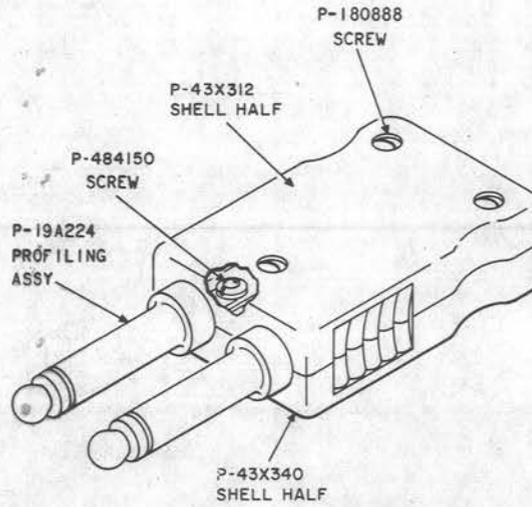
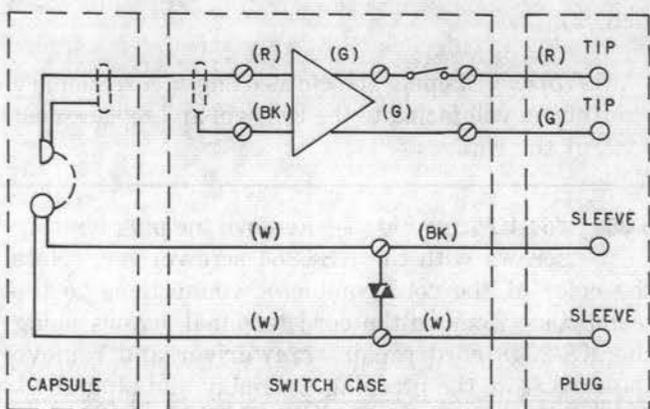

Fig. 7—464A Plug
Fig. 11—KS-21118 L3 Through L9 and L23 Through L29 Headset Schematic
5.08 *464A Plug:* Fig. 7—Remove the plug housing screws with the KS-6854 screwdriver. Note the color of the cord conductor connections to the terminals. Remove the cord terminal screws using the KS-2348 cord repair screwdriver and remove the cord from the profiling assembly and plug shell. Insert the new cord terminals through the hole in one half of the plug shell and connect to cord terminals, as shown in Fig. 11 or 12. Place profiling assemblies in shell half and reassemble the parts in the reverse order of removal.
Remove the housing screws using the 3-inch C screwdriver. Open the housing and remove the spring clip. Note the dress of the leads. Using the KS-2348 cord repair screwdriver, remove the terminal screws holding the printed wiring board terminals and remove the board. Substitute the new board and reassemble in reverse order of removal, connecting the terminal leads, as shown in Fig. 11 or 12. Dress the leads as originally positioned.